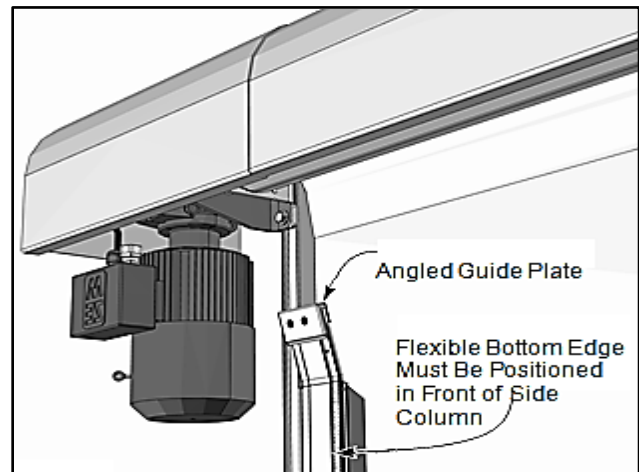

Figure 19
1. Position the breakaway tabs on the flexible edge in front of the side column where the angled guide plate is located. (See Figure 19.)